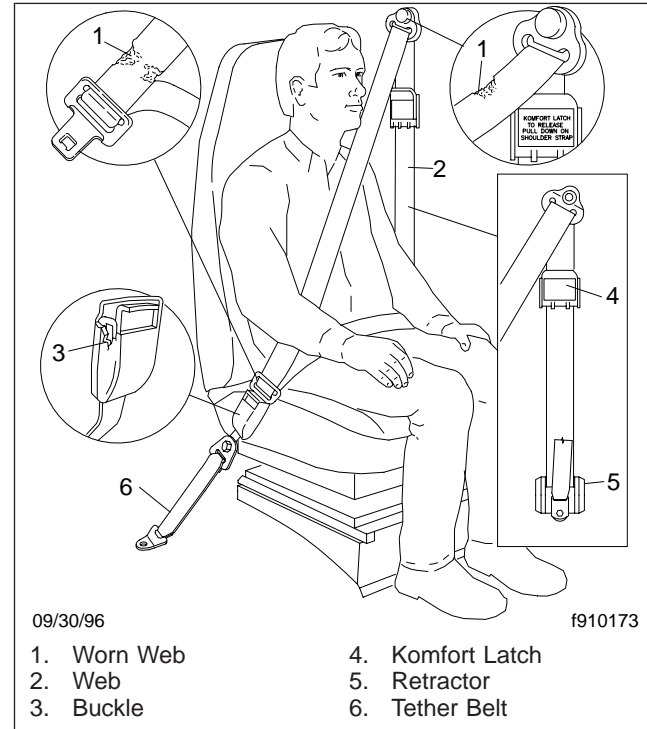

Fig. 9.3, Seat Belt Inspecting (typical seat)
27. *Inspect the seat belts and tether belts if so equipped. See Fig. 9.3.*